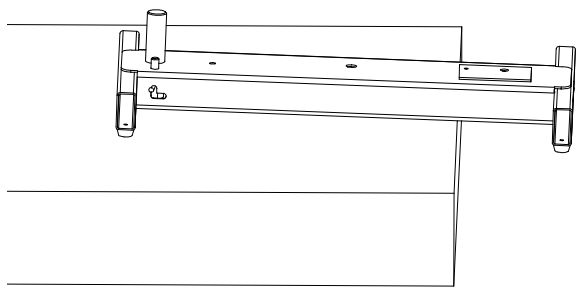

FIG. 1
- Place the frame of the machine over the edge of a table (Fig.1).